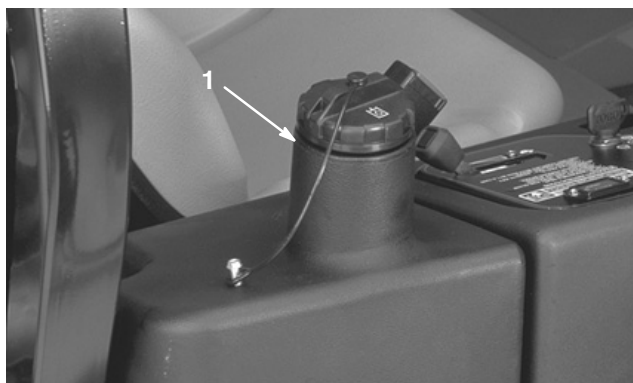

Figure 50
3. Fill the reservoir (Fig. 50) with approximately 3.5 U.S. gallons (13.2 l) of hydraulic fluid; refer to Checking the Hydraulic System, page 17.